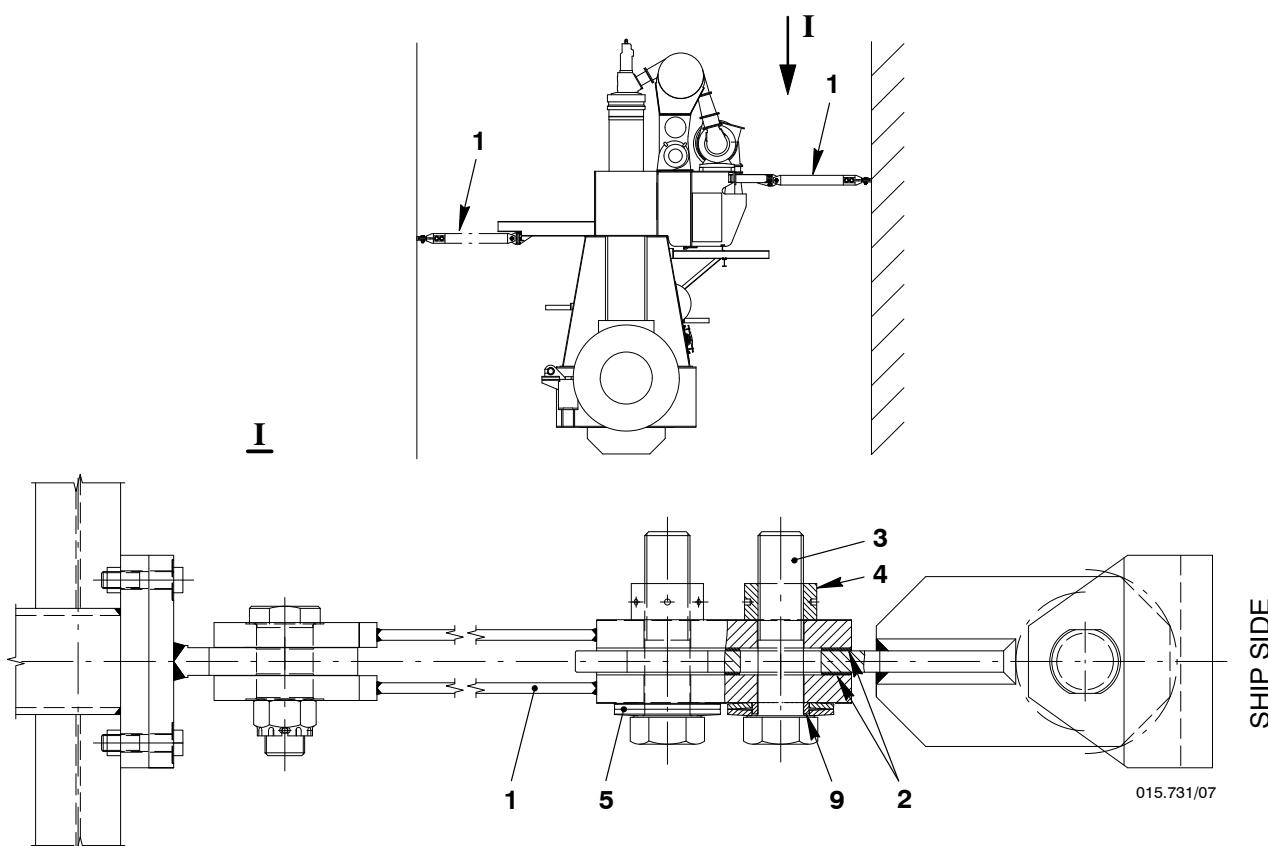

Fig. 1
Depending on ship design, there are four engine stays (1, Fig. 1) with friction shims either on exhaust or on fuel side and two engine stays on driving end and free end.
- 1) Clean the threads of the screws (3, Fig. 1) and the seating surfaces. Subsequently apply MOLYKOTE G paste to the threads.
- 2) Pre-tension the screw (3) to **170 bar** according to 9403-4.